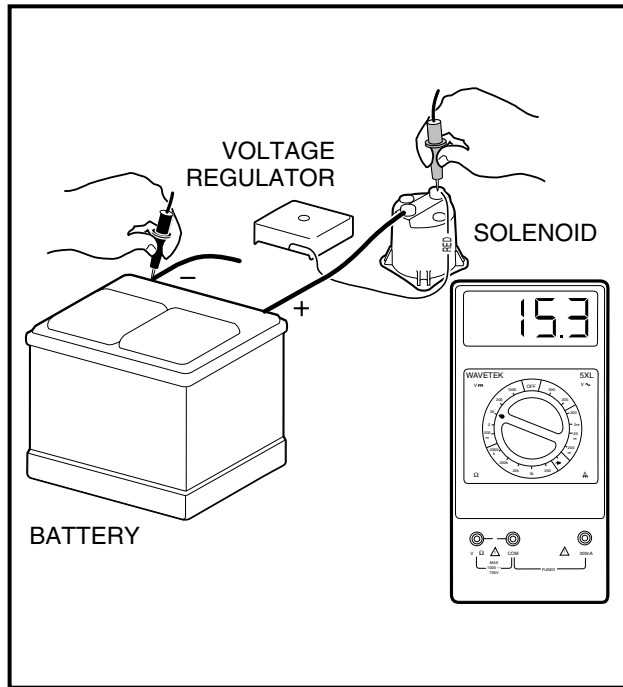

Figure 11b-29 Test Voltage Regulator
5. Turn the key switch to the OFF position, killing the engine. Using a multimeter set to 20 volts DC, place the red (+) probe on the large post of the solenoid with the red wire from the voltage regulator attached. Place the black (-) probe on the negative (-) battery post (**Figure 11b-29, Page 11b-25**). Turn the key switch to the ON position. Depress the accelerator to start the engine and run it at full governed speed. If the reading is between 14.7 and 15.3 volts, the regulator is good. If the reading is lower than 14.7 volts-